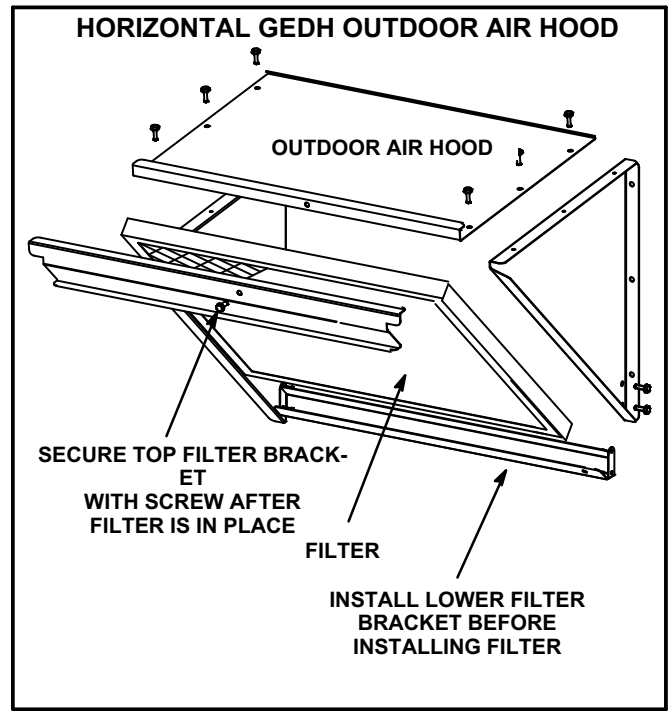

FIGURE 15
- 7- Install the upper hood on the unit as shown in figure 15.